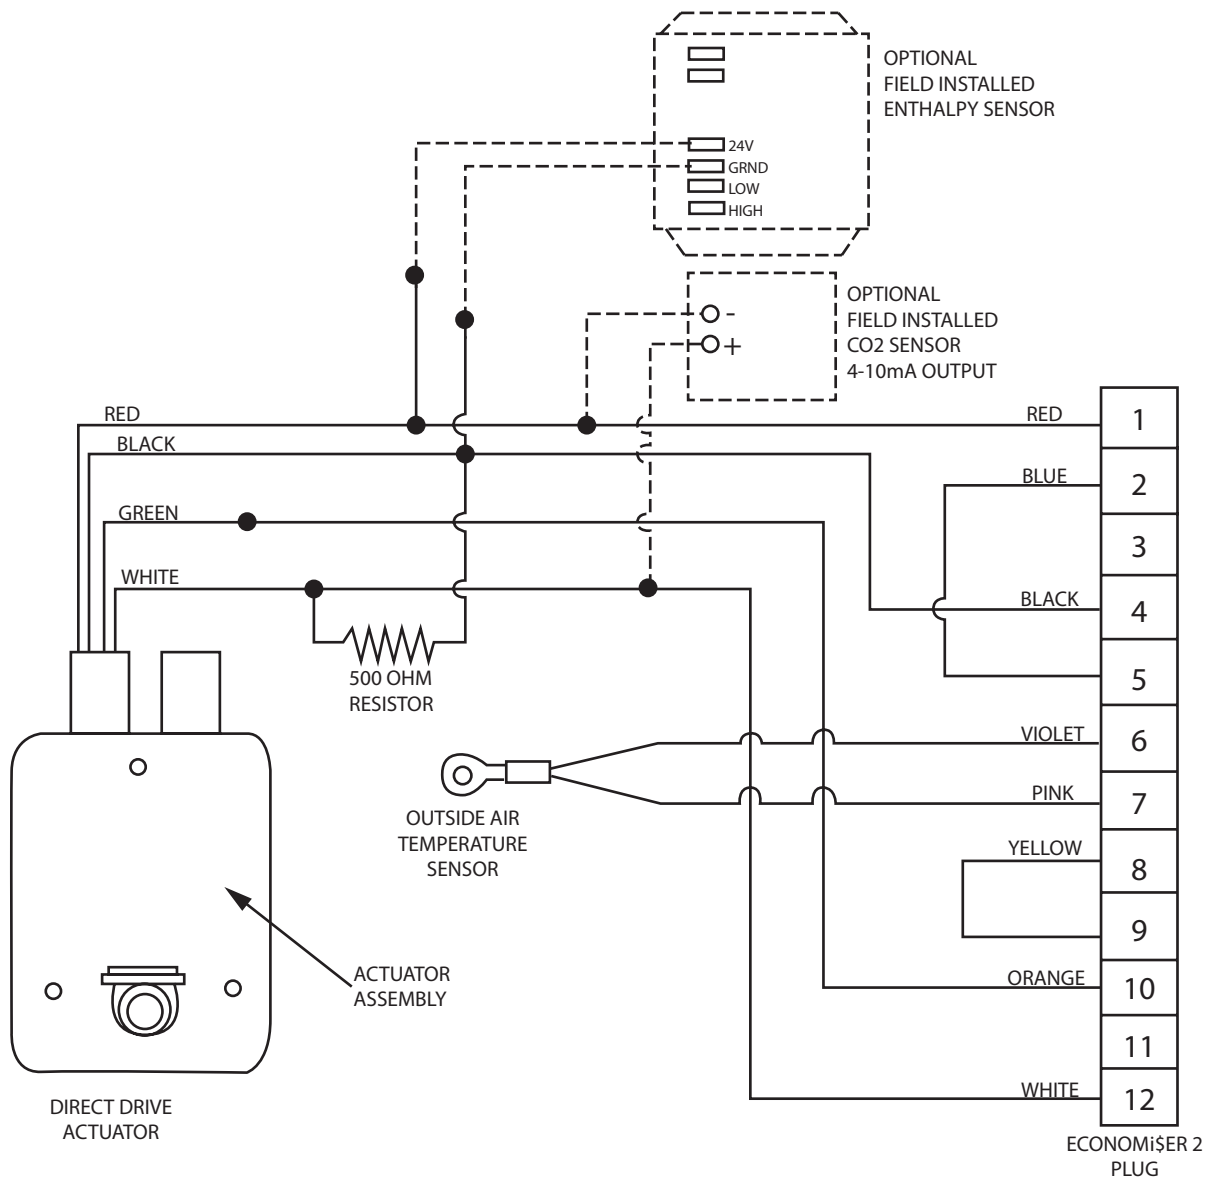

Fig. 8 - EconoMiSer2 Wiring
11. Remove and save the 12-pin jumper plug from the unit wiring harness (located in the upper left corner of the unit). Insert the EconoMiSer2 plug into the unit wiring harness. Refer to Fig. 8 for wiring diagram.